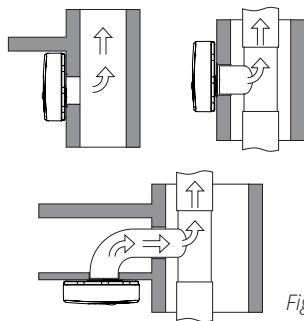
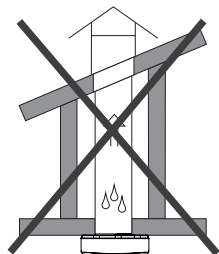

Fig. 2
Fig. 3
- If the vent pipe is vertical, there must be a branch to the fan, Fig. 2. A direct vertical vent pipe is not permissible, Fig. 3.